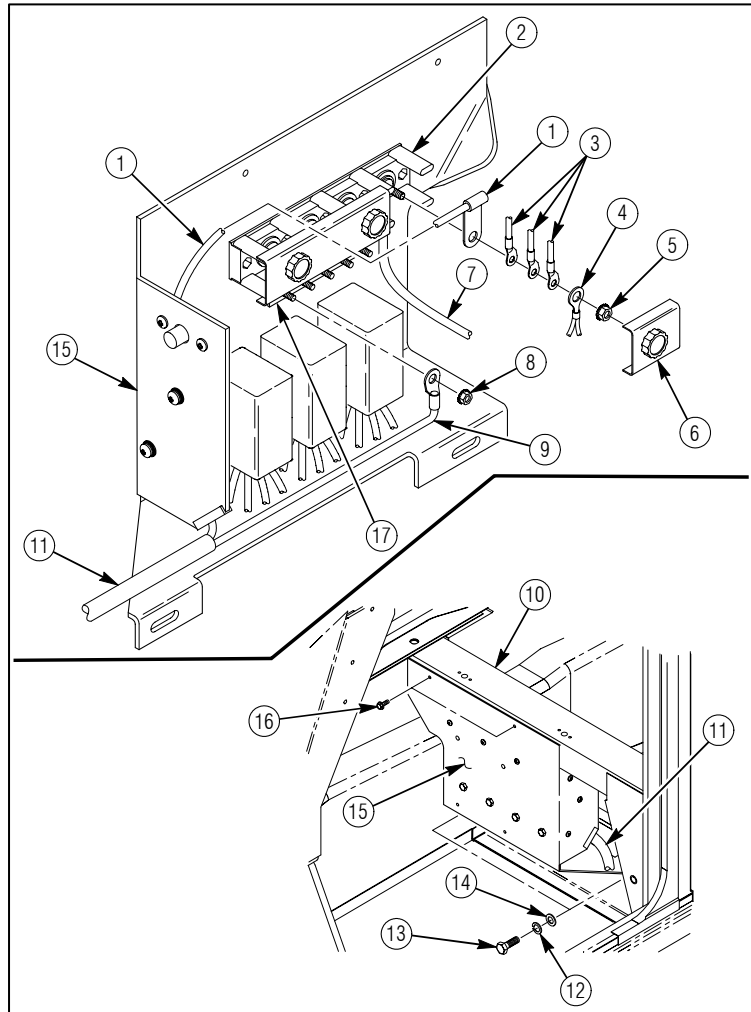

Figure 36
1. Remove nut (8) from vehicle grounding buss bar (17) as shown in figure 36.
2. Connect NEGATIVE (black) lead (9) of 6432538-01M1 wire harness (11) to vehicle grounding buss bar (17) and secure with nut (8) as shown in figure 36. Tighten nut (8) to 80 lb-in. (9 N·m).
3. Remove small cover assembly (6) from vehicle power buss bar (2) as shown in figure 36.
4. Remove nut (5) and all electrical cables except the vehicle buss bar power supply cable (7). Refer to figure 36.
5. Install 6432541-01M1 cable assembly (1), vehicle fuse connectors (3), and air conditioning power connector (4) as shown in figure 36. Secure with nut (5) and tighten to 80 lb-in. (9 N·m).
6. Install small cover assembly (6) on vehicle power buss bar (2) as shown in figure 36.
1. Position B-beam panel (15) in place against right side B-beam (10) and ensure no wires are pinched between the B-beam panel (15) and right side B-beam (10). Refer to figure 36 (pg.33).
2. Route harness assembly (11) through opening in B-beam panel (15) provided by removing material on lower front corner of B-beam panel (15). Refer to figure 36 (pg.33).
3. Secure top of B-beam panel (15) to right side B-beam (10) with two existing screws (16) as shown in figure 36 (pg.33).
4. Secure bottom of B-beam panel (15) with two existing capscrews (13), two 4397004-006 lockwashers (12), and two existing washers (14) as shown in figure 36 (pg.33). Tighten capscrews (13) to 6 lb-ft. (8 N·m).